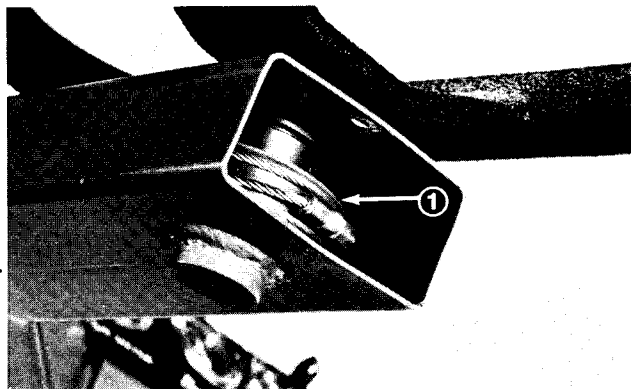

Figure 2
2. If all threads on the cable end have been used, replace cables. If necessary, service the pulley and steering cable under the steering wheel by removing the cover on the end of the steering column (Fig. 2).